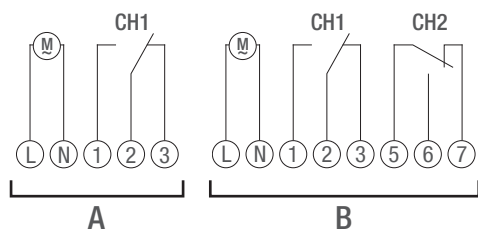

Fig. 9: Circuit diagram
3. Connect the timer in accordance with the circuit diagram (Fig. 9/A) or (Fig. 9/B).